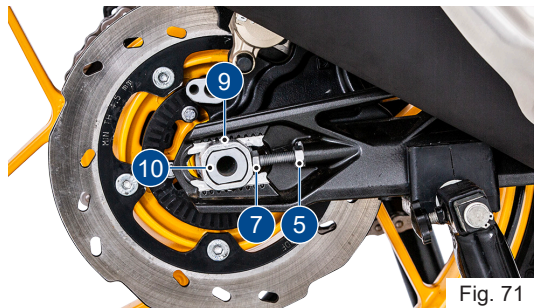

Fig. 71
- Remove the chain tensioner and push the quick-release axle (10) to the right as much as possible (ref. Fig 71).